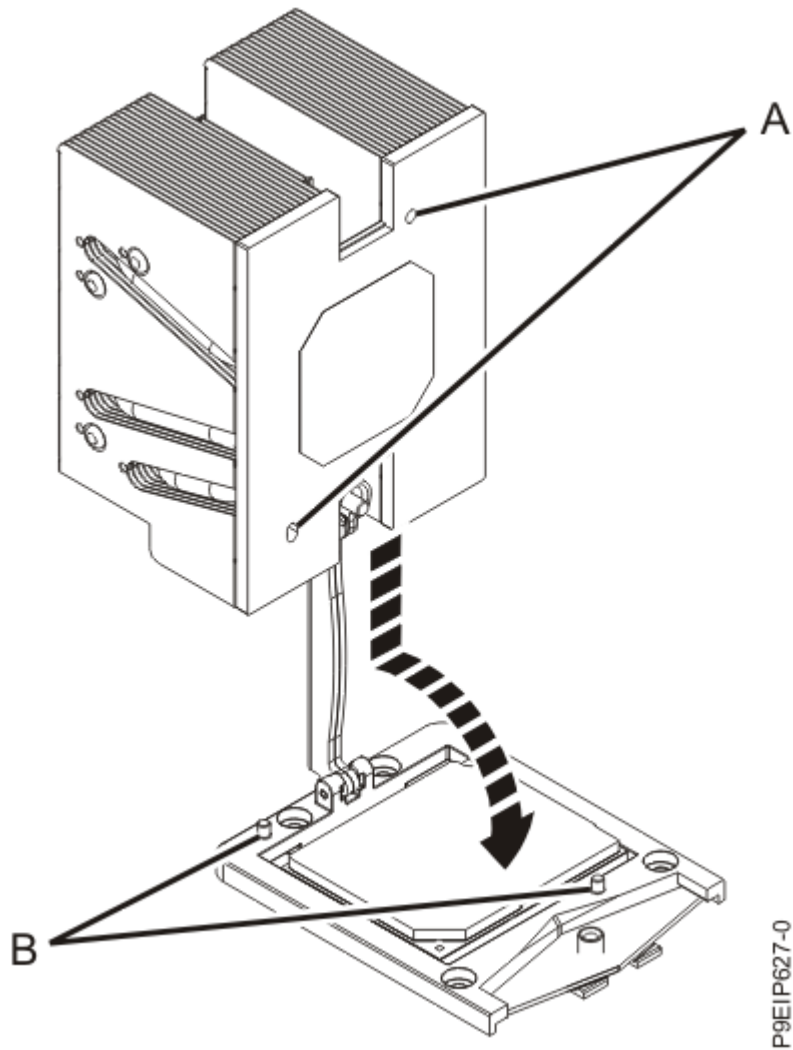

Figure 46. Installing the heat sink
13. Move the processor heat sink to the system processor module. If either the TIM or the heat sink is damaged, replace both the TIM and the heat sink. Carefully lower the heat sink over the system processor module, shelf or notch side down. Pass the load arm through the heat sink. Ensure that the holes in the heat sink **(A)** align with the alignment pins **(B)** on the socket, as shown in Figure 46 on page 49.